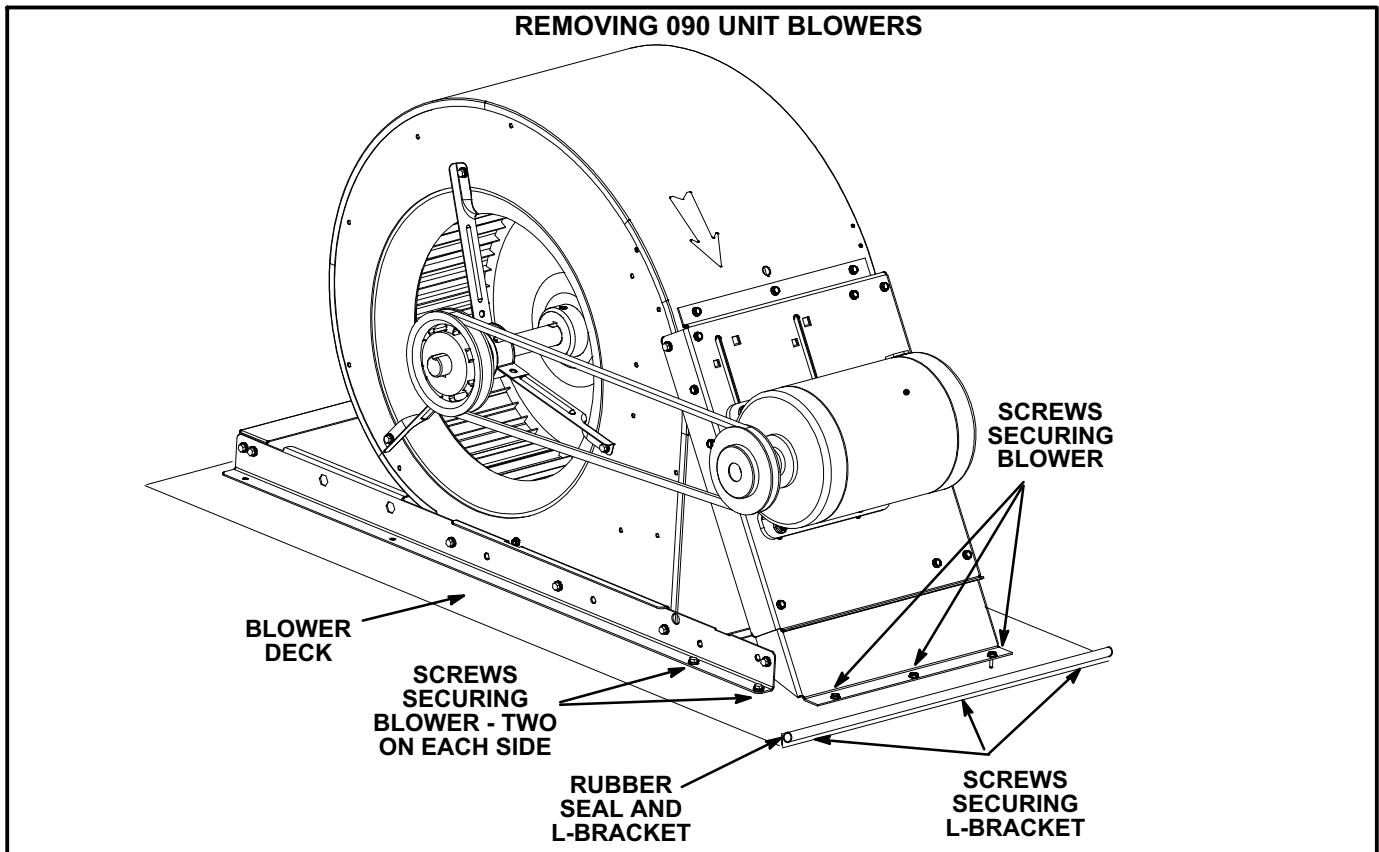

FIGURE 31
- 1- Peel the rubber seal off of the L-bracket on the blower deck. See figure 31.